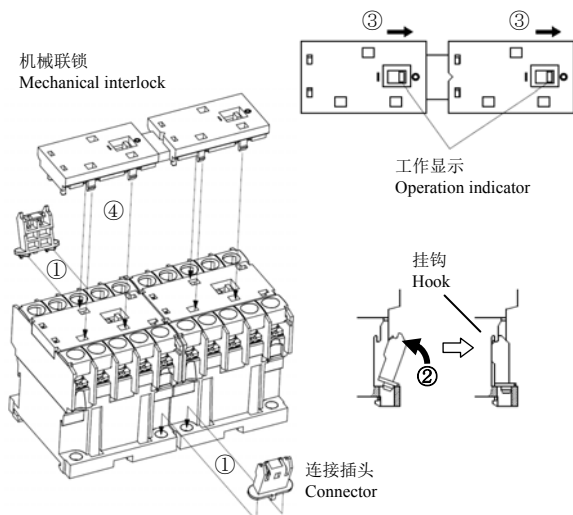

Fig.1
3. 安装 (Fig.1)
3. Mounting (Fig.1)